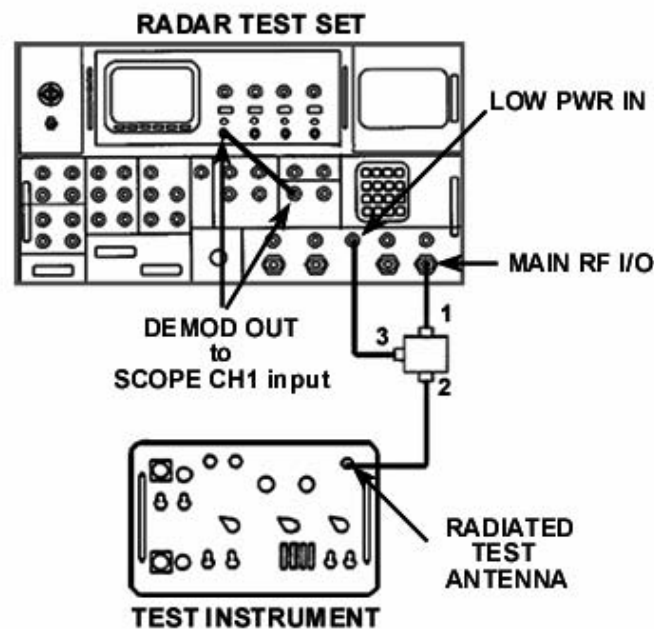
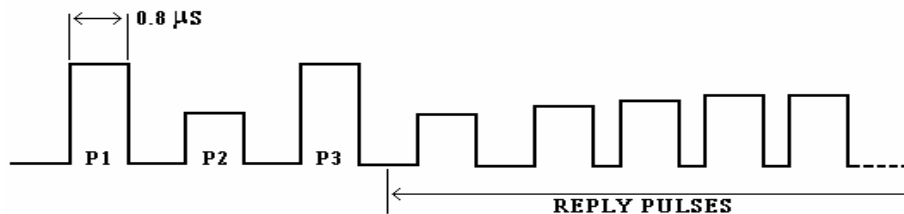

Figure 3. Transmitter frequency/pulse – equipment setup.
Figure 4. Pulse train (example).
(1) Connect equipment as shown in figure 3.
- (1) Connect equipment as shown in figure 3.
- (2) Set TI switches as listed in (a) through (d) below:
- (3) Select radar test set **Menu 11, MODULATION to ON**. Set TI **MODE** switch to **1, 2, 3/A, and C**, and adjust oscilloscope to observe presence of complete interrogation pulse trains (see fig. 4), making sure that TI **ACCEPT** lamp is lit in each mode.
- (4) Set TI **MODE** switch to 1.
- (5) Set oscilloscope for a convenient display of the first 3 pulses of the interrogation pulse train.